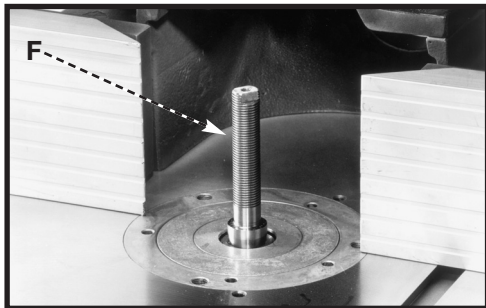
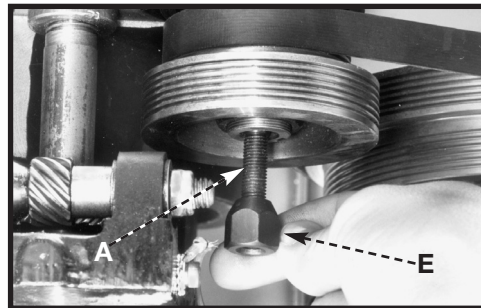

Fig. 12
Fig. 13
4. Use a wrench on the flats (F) Fig. 12 to hold the spindle while tightening the nut (E) Fig. 13 on the bottom of the tie rod.